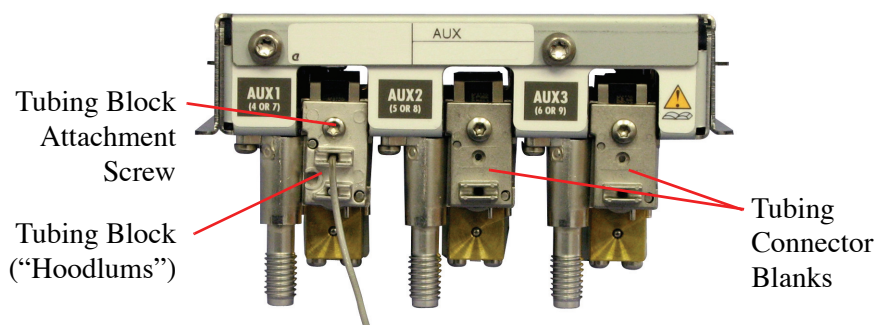
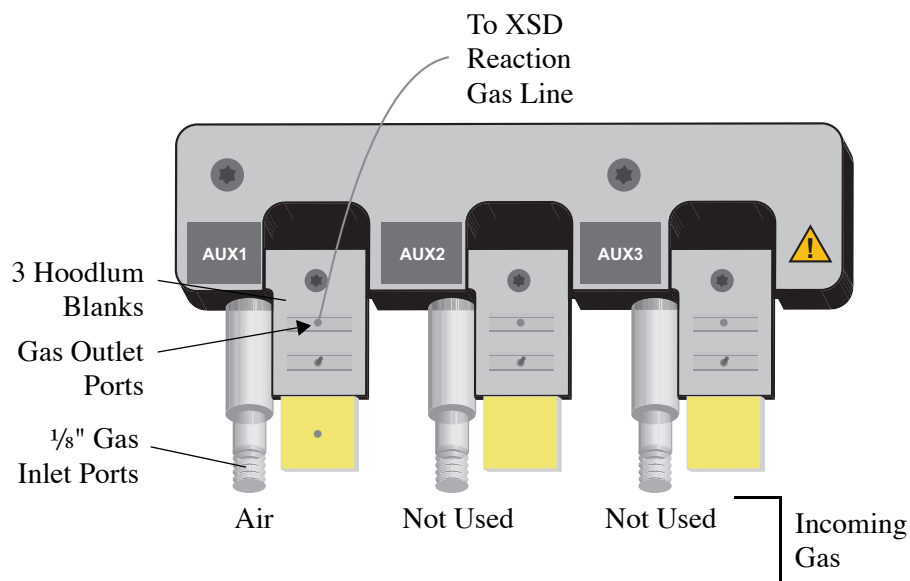

Figure 3.12. Aux EPC Module Tubing Connector Blanks
Figure 3.13. Aux EPC Plumbing for Standalone XSD with or without Venting
1. Remove the AUX1 tubing connector blank (refer to Figure 3.12) from the Aux EPC module to expose the O-ring and restrictor (leave the other two blanks in place).
3. Attach the tubing blocks (hoodlum block assembly with integrated 1/16" stainless steel lines) to each of the manifolds to be utilized and tighten each screw (refer to Figure 3.12 and Figure 3.13 or Figure 3.12).